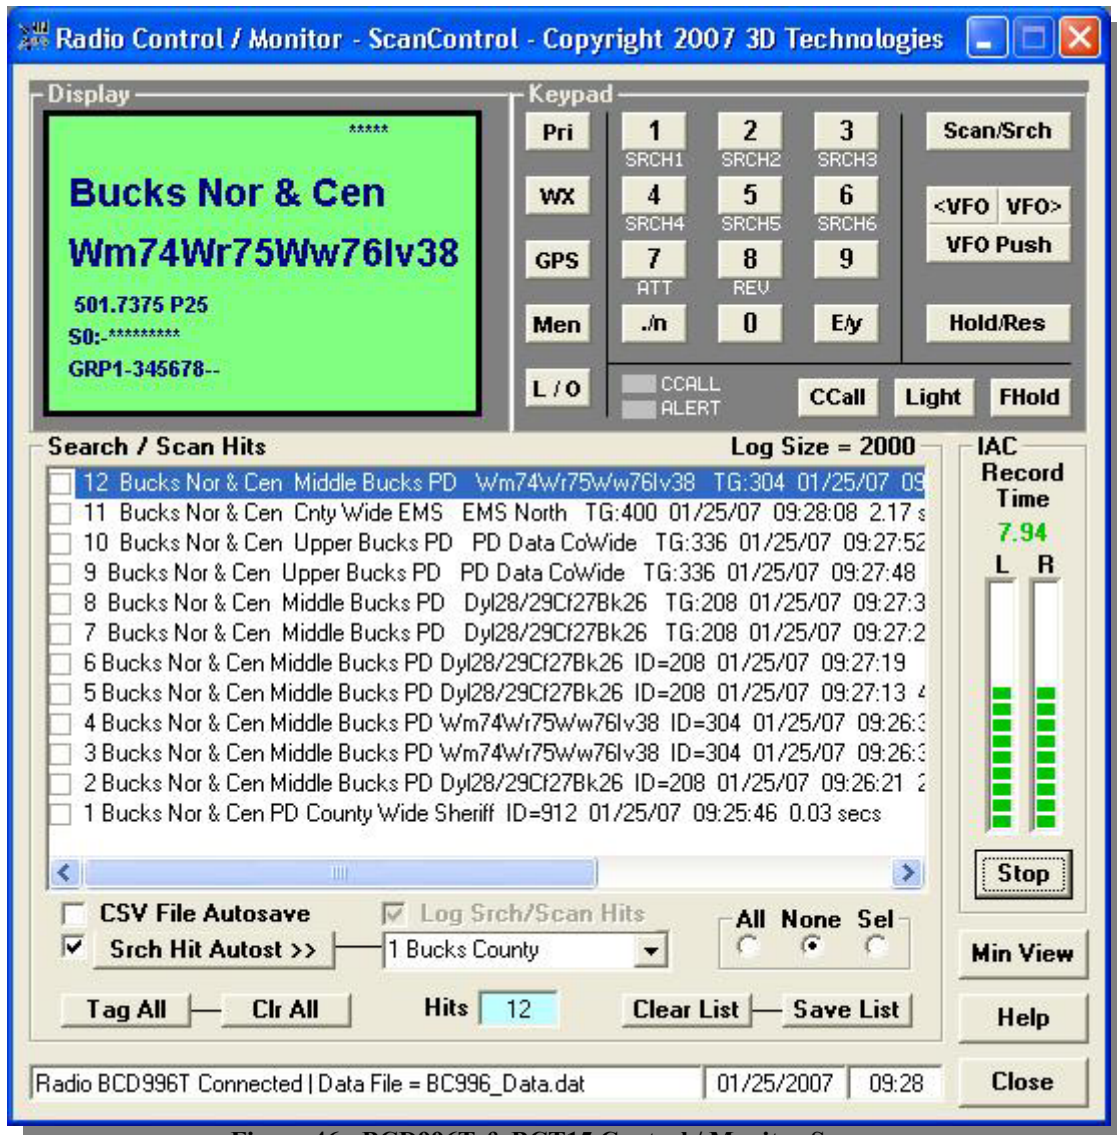

Figure 46 - BCD996T & BCT15 Control / Monitor Screen
**\*\* See Screen Function descriptions below Figure 46.**
\*\* See Screen Function descriptions below Figure 46.